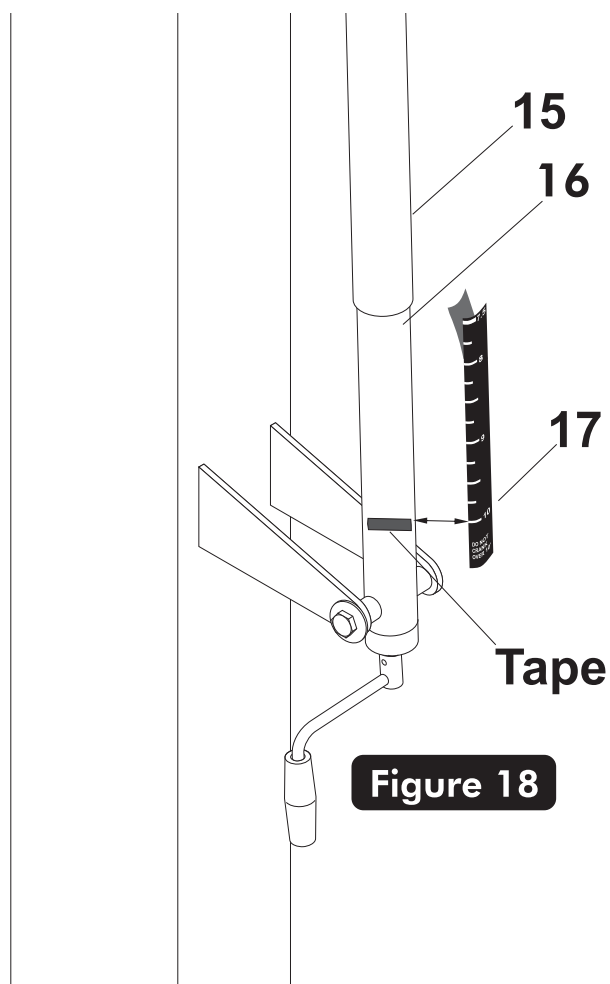

Figure 18
34. Remove the adhesive backing from the Height Decal (#17). Next, carefully align and stick decal to backside of steel actuator (#16) starting at the **10 ft mark first**. Be sure to keep the height decal straight and rub out all air bubbles. See **Figure 18**.